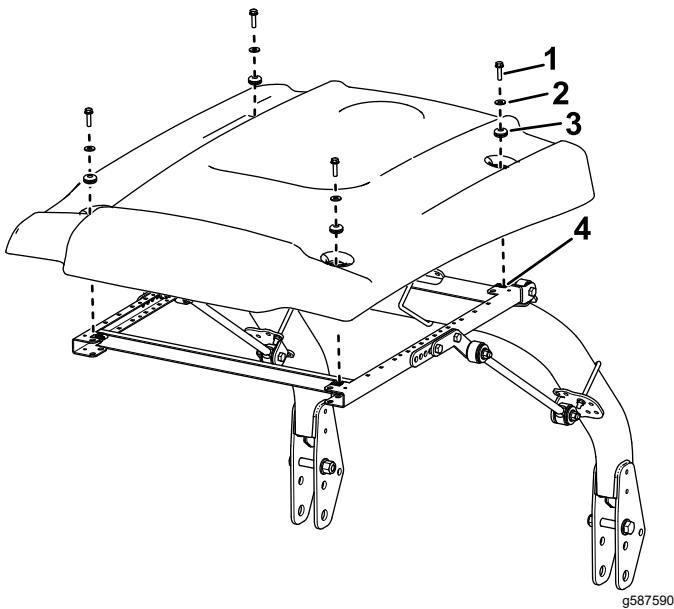

Figure 41
- While aligning the mounting holes, position the sunshade onto the frame as shown in Figure 41.
- Loosely mount each corner of the sunshade to the frame with a flange-head bolt (5/16 x 1 inch), a small washer, and a grommet (Figure 41).